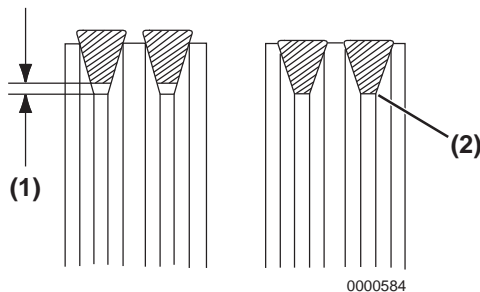

Figure 5-5
- Tighten the V-belt to the proper tension. There must be clearance (Figure 5-5, (1)) between the V-belt and the bottom of the pulley groove. If there is no clearance (Figure 5-5, (2)) between the V-belt and the bottom of the pulley groove, replace the V-belt.
- Inspect the condition of the used V-belt. There must be clearance (Figure 5-5, (1)) between the V-belt and the bottom of the pulley groove. If there is no clearance (Figure 5-5, (2)) between the V-belt and the bottom of the pulley groove, replace the V-belt.